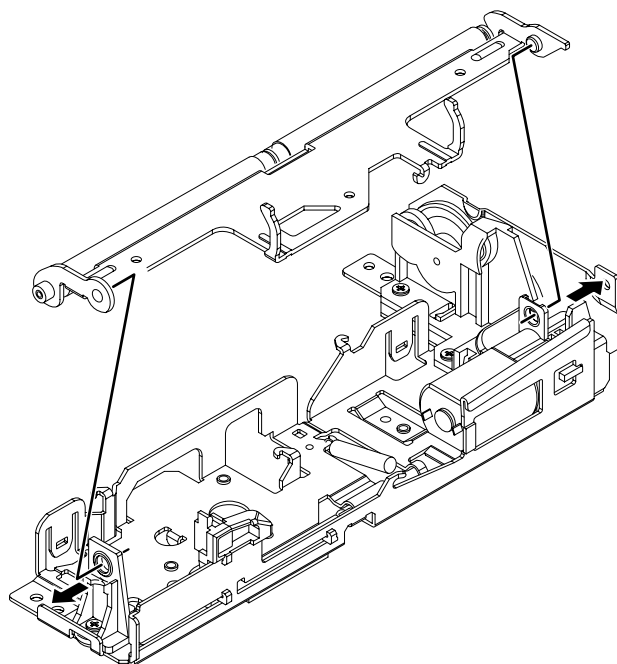

Fig.11
- (1) Remove the roller arm assembly from the bottom frame assembly. (See Fig.11)